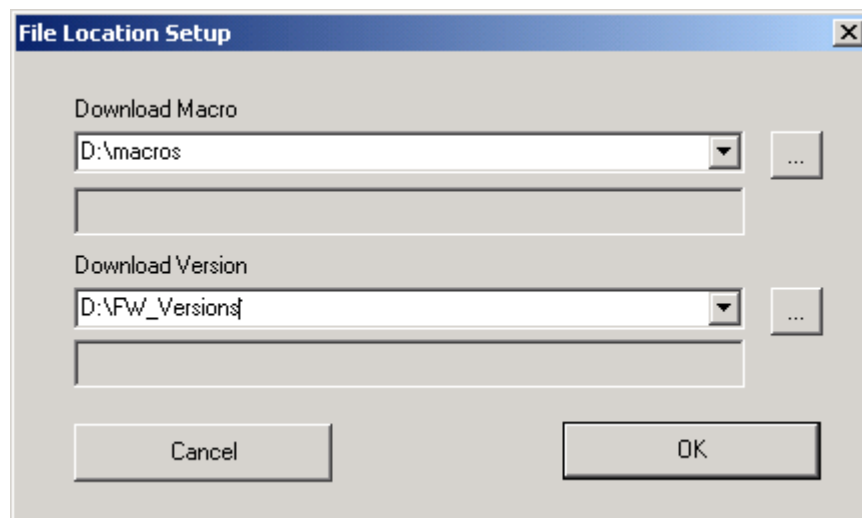

Figure 15: FlexDC Shell File Locations Setup Dialog
- The user can select a default directory in which the Macro Download dialog box opens. On "File" menu, click "File Locations" to define the default file locations. The default file name is saved with the Nanomotion Shell Application setup. Figure 15 shows the "File Locations" definition dialog box. Use the browse [...] buttons to open a Windows browser tree dialog box.